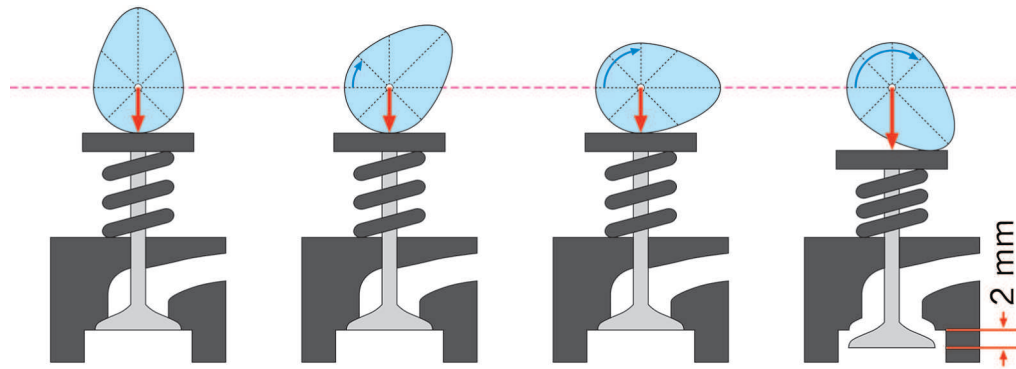

Figure 10:
Figure 10 shows how the rotation of a cam changes the position of a valve in an engine. The figure continues on the next page. Study this figure carefully before you answer the following questions.
1. Complete the table above to show how far the valve is open at different positions of the cam in Figure 10. Measure the distance that the valve is open.
Figure 10 above shows different positions of a cam and a valve as the cam is rotating. This is the way that the valves in most engines are opened and closed at the correct times.